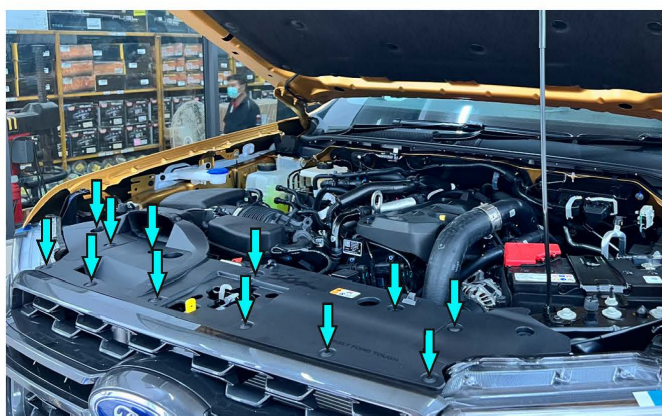

Fig.64
64. Install OE plastic pad and fix it using OE clips (fig.64).